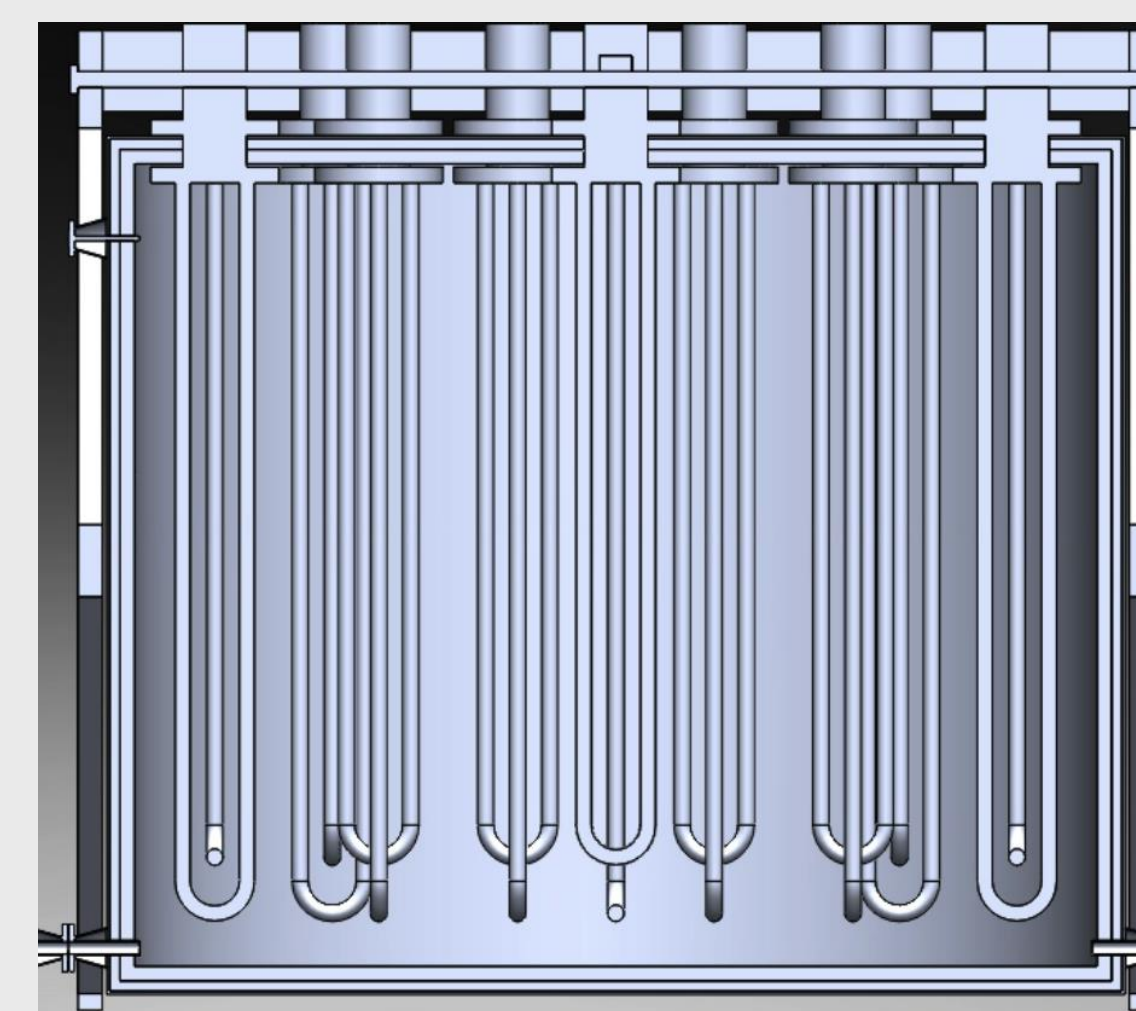
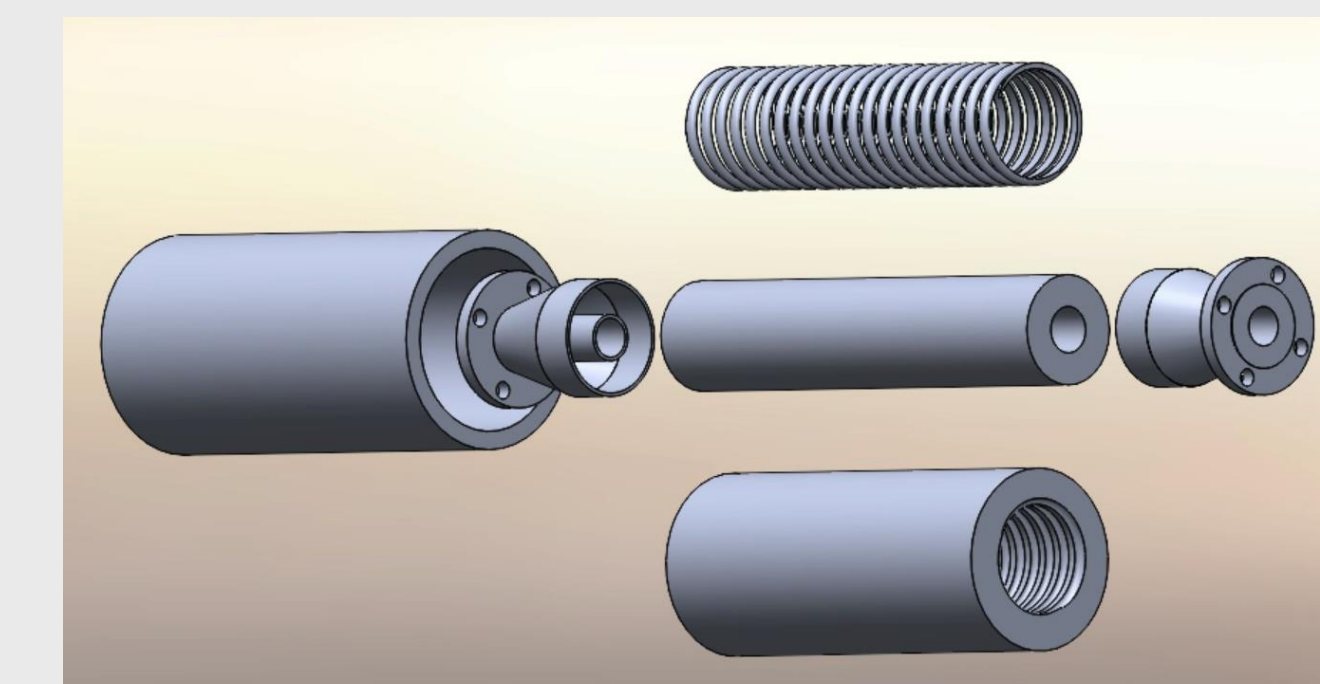

Figure 2. Cross Section Of Storage Vessel to Show heating Inserts
Figure 3. Inlet/Outlet Hose Design (See Heating Coil)
- Heating system in place to overcome freezing temperatures on the moon (refer to Figure 2 and Figure 3).
- Inlet and outlet water transfer lines (shown in Figure 3) are redesigned PTFE hose to replace heavy piping.